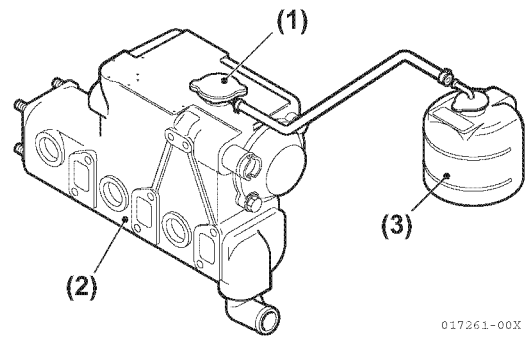

Figure 5-205
77. Fill with water in the coolant recovery tank until the level is between the full and low marks **(Figure 5-205)**.